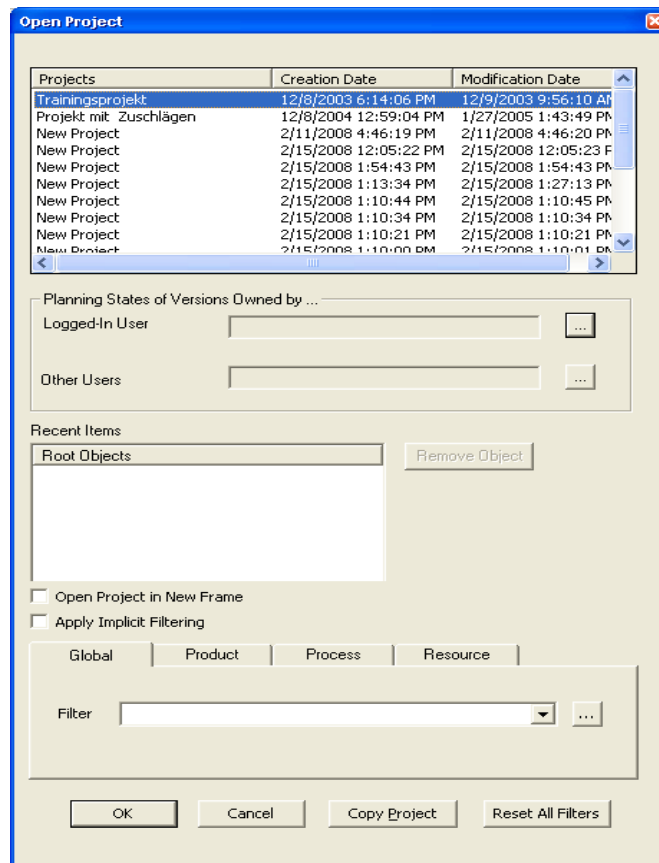

Figure 10: Opening a Project
- 3) Select the required **Filter** tab. Please refer to the Figure 10.
- 6) Click  symbol in **Filter** drop-down list. Please refer to the Figure 10. The **Edit Filter** dialog appears.